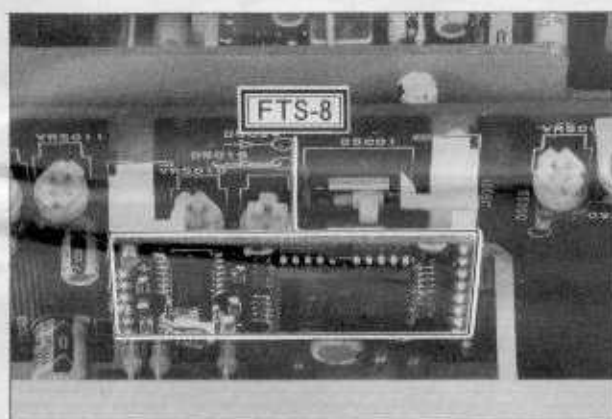

Figure 22
3. Press the FTS-8 onto the two connectors, so that all pins find their mating holes (see Figure 22).